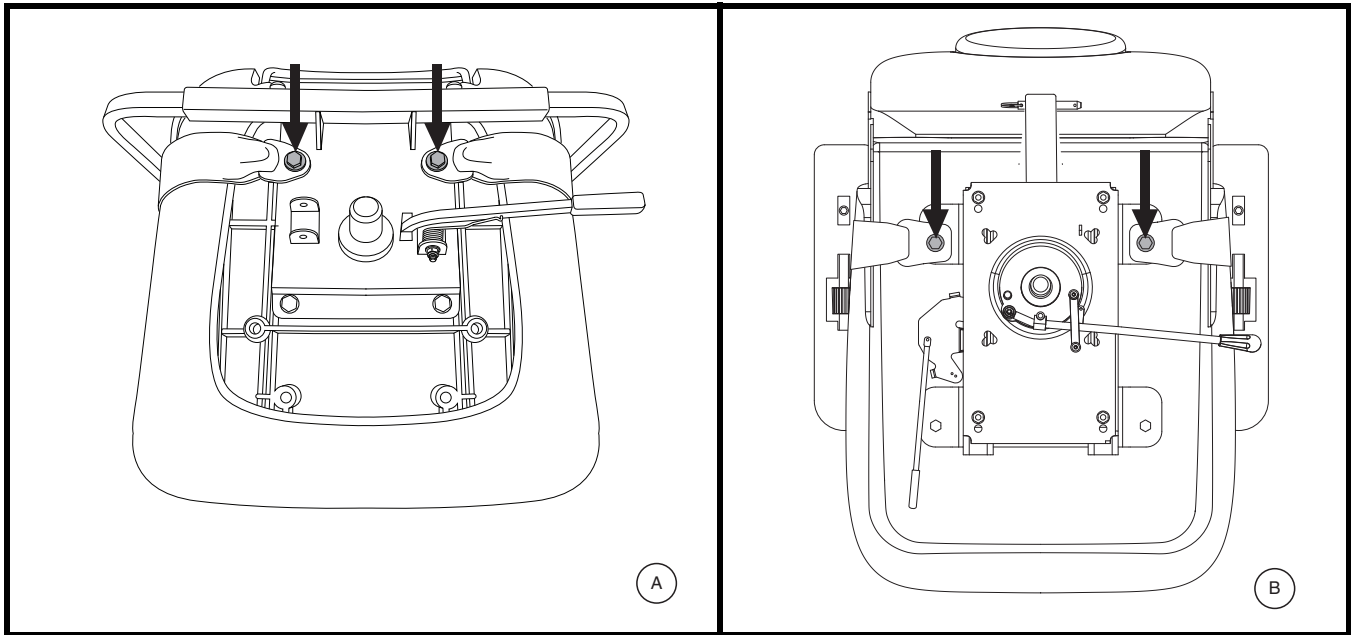

Figure 18. Positioning Belt Bolts
2. Place the seat upside down so that you can see the bottom of the seat base. See **figure 18**.